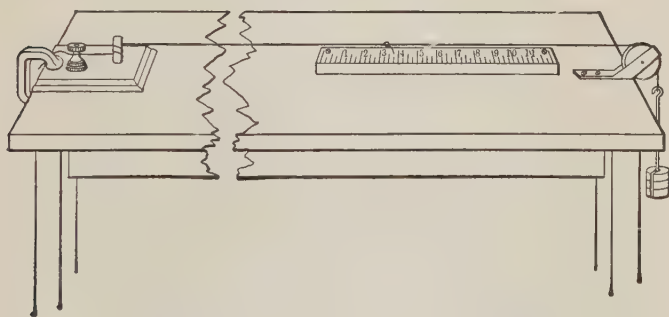

FIGURE 18.—TENSILE STRENGTH OF WIRE.
**EXPERIMENT 4.** — The tenacity of a metal may be measured by fastening one end of a piece of # 28 wire securely to a screw in the table top and exerting force on the other end, which passes over a pulley on the edge of the table, and is attached to a hanger on which weights are placed, until the wire breaks. The wire should be given two or three turns around a cylinder just in front of the screw (Figure 18). This cylinder prevents the wire from being cut.